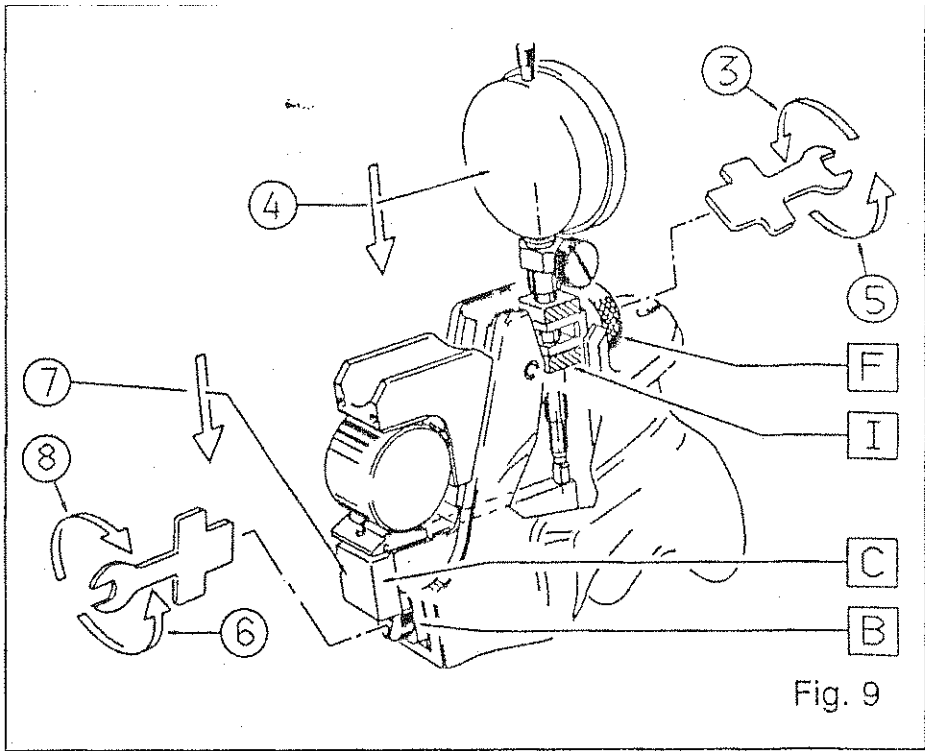

Fig. 9
- 3) Insert the dial indicator unit in its dedicated seat I (fig. 9). Tighten knob F leaving the dial indicator unit loosely fastened.